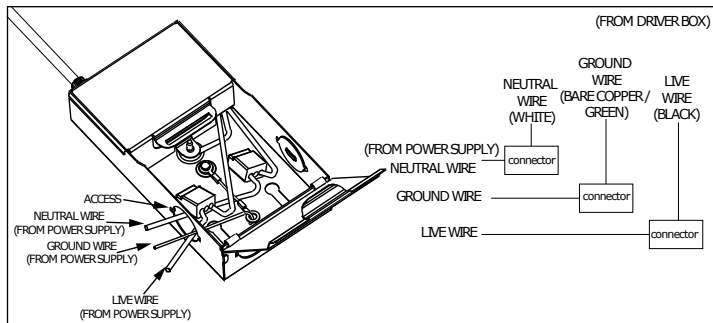

Figure 2
- Connect black wire to live wire, white wire to neutral wire, and green wire with ground (as shown) and secure using connector. Close the cover of the box. (Figure 2)